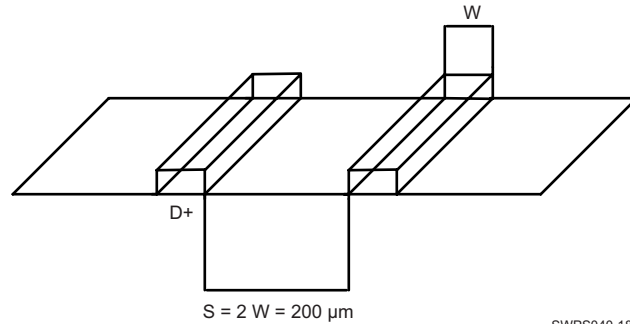

图 8-29. Ground Guard Illustration
- For a line width equal to W , the spacing between two lines must be $2W$, at least. This minimizes the crosstalk between switching signals between the different lines. On the PCB, this is not achievable everywhere (for example, when breaking signals out from the device package), but it is recommended to follow this rule as much as possible. When violating this guideline, minimize the length of the traces running parallel to each other (see 图 8-29).